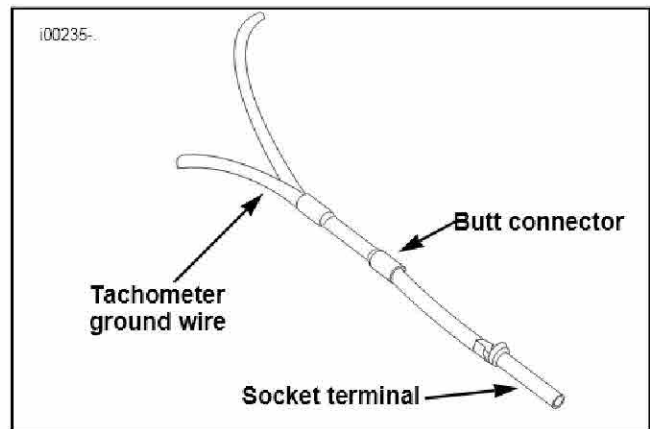

Figure 11. Connecting Tachometer & Speedometer Grounds
- See Figure 11. Using the butt connector from the kit connect the ground leads as shown. Refer to "SEALED BUTT CONNECTORS" in the 1995 (or later) XLH Service Manual for a complete procedure.